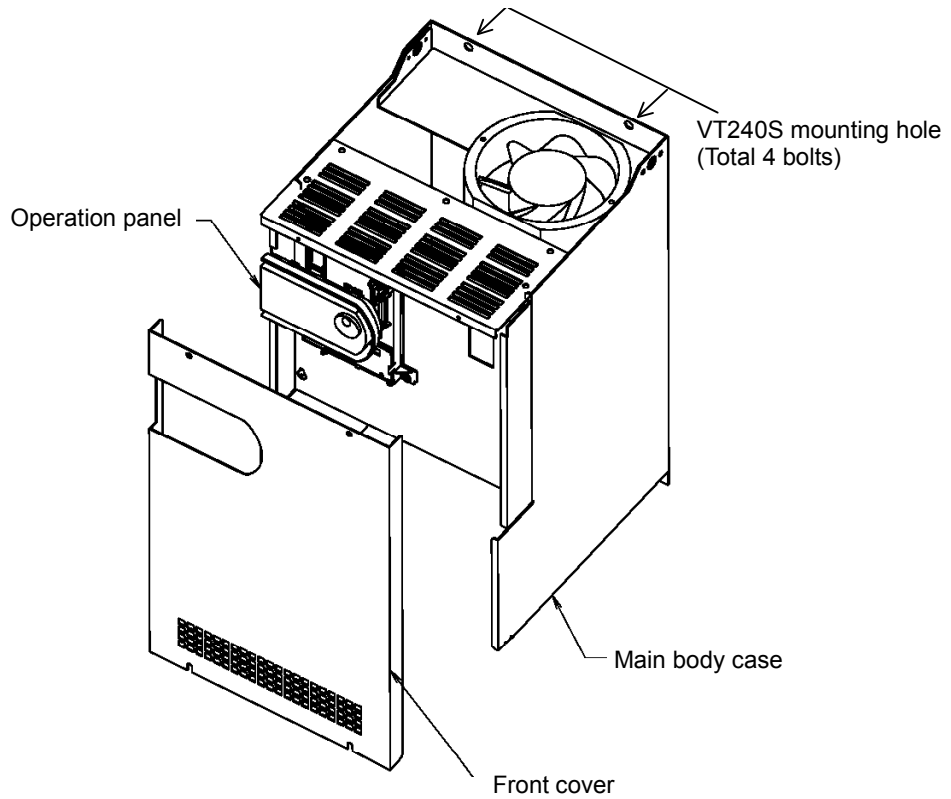

Fig. 2-2-d
To remove the operation panel, securely hold the panel with a thumb on the lower side and another finger on the top side as shown in Fig. 2-2-a, and pull the panel forward and off. To mount the operation panel, hold it the top and bottom sides with five fingers, and press the panel on horizontally. Confirm that the operation panel is securely fixed with the latches for the operation panel mounting holder.
The operation panel mounting holder opens and closes with the right side as a base point as shown in Fig. 2-2-b. When wiring to the control terminal block, open the left side of the main body case outward, and open the folder to 90°. When closing after wiring, confirm that the jaw on the left end of the holder is securely fit into the hole on the main body case.
(1) 018L, 030H and smaller (Fig. 2-2-c)
(2) 022L, 037H and larger (Fig. 2-2-d)